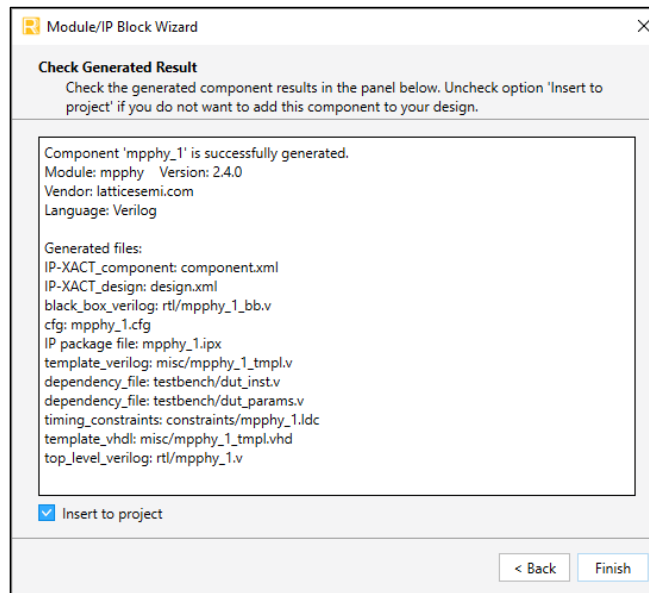

Figure 5.3. Check Generated Result
- Click **Generate**. This shows the design block messages and results as shown in Figure 5.3.